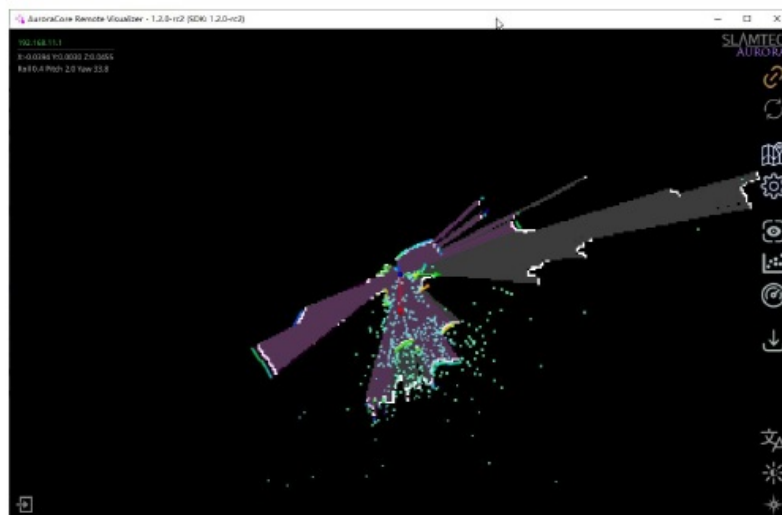

Figure 6 Display Mapping Screen
4. After initialization is complete, the Aurora Remote mapping screen is shown in Figure 6, and the Aurora indicator light changes from red to green.